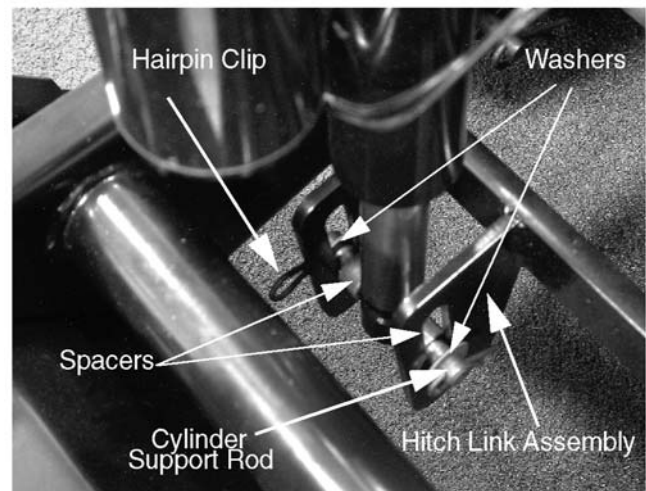

Figure 8-87.
2. Remove one hairpin clip that secures the lower cylinder support rod in the slot in the hitch link assembly. See Figure 8-87.